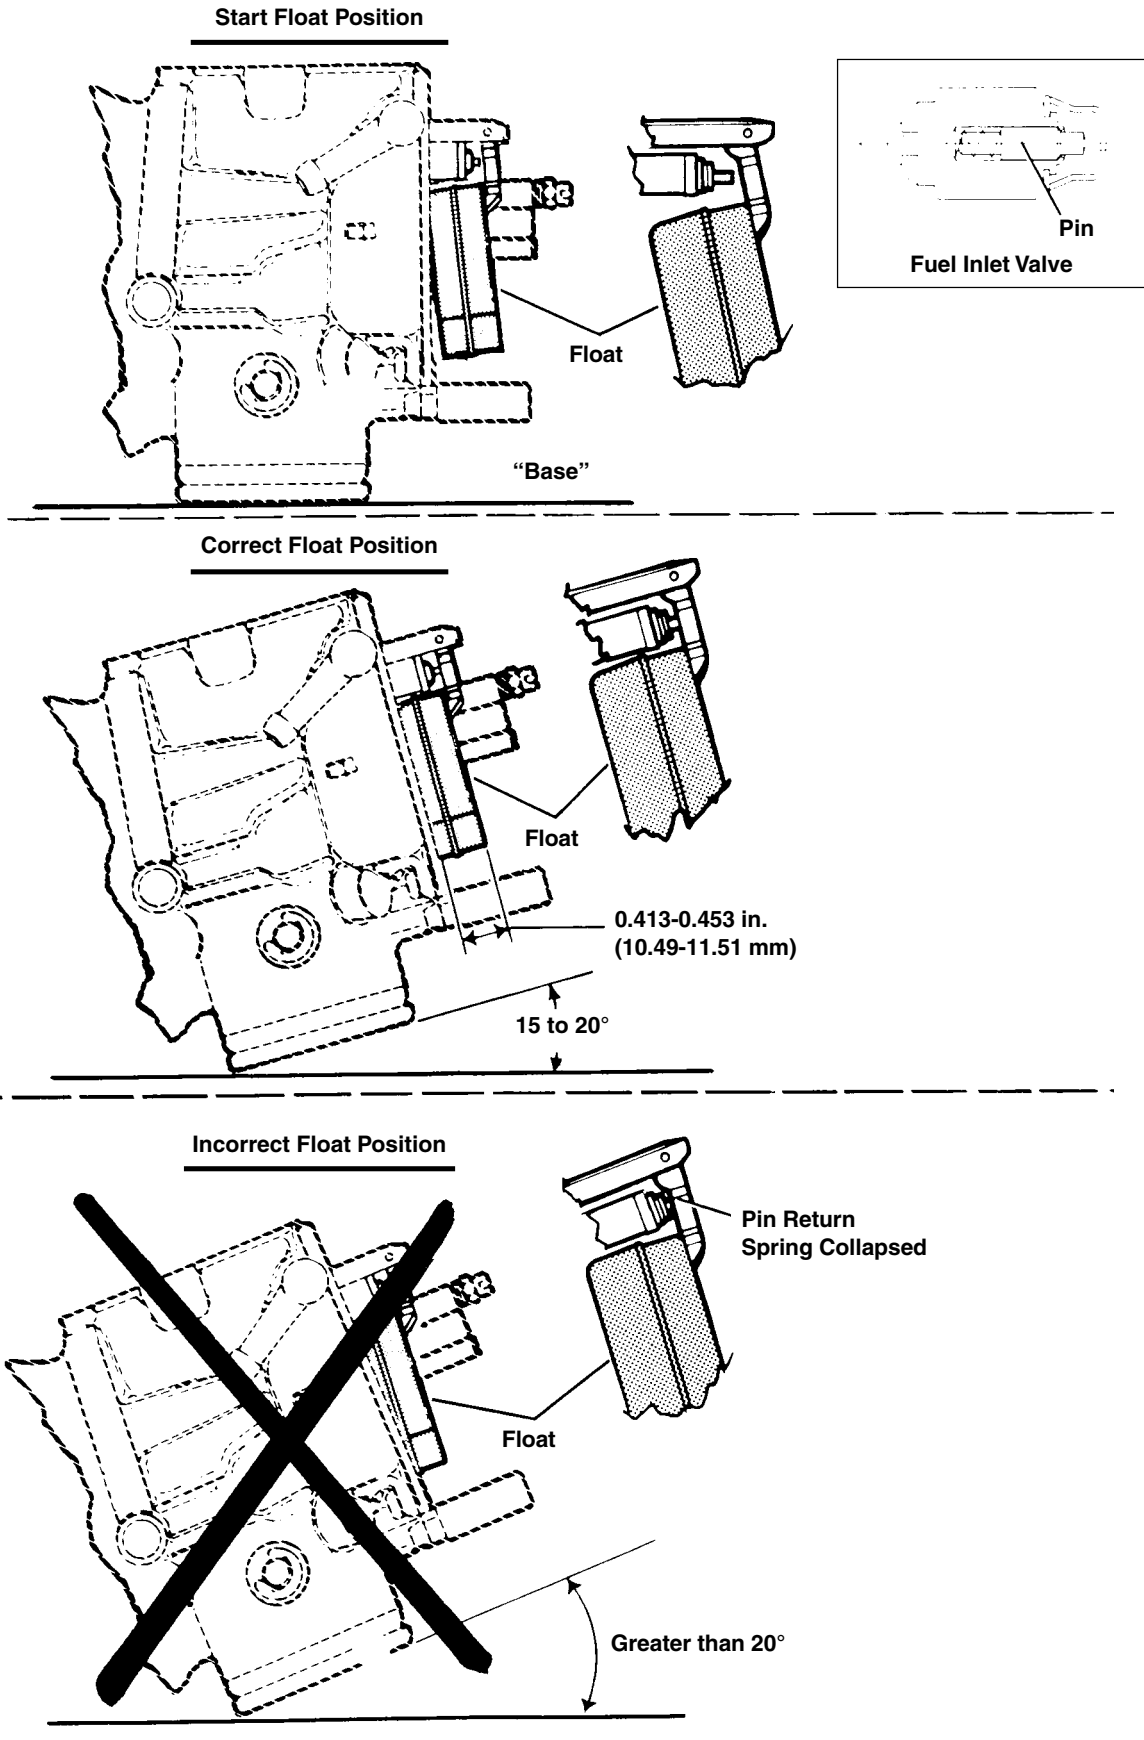

Figure 4-11. Carburetor Float Adjustment
2. See Figure 4-11. Place carburetor on a flat, clean surface on engine manifold side. This is the "base." Tilt carburetor counterclockwise 15° to 20° from base until float comes to rest.